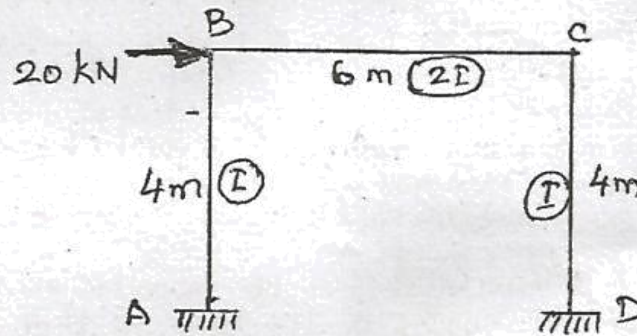

Fig Q. 15 (b)
- (b) Analyze the frame shown in figure Q.15 (b) by moment distribution method using Naylor's simplification and draw the bending moment diagram.